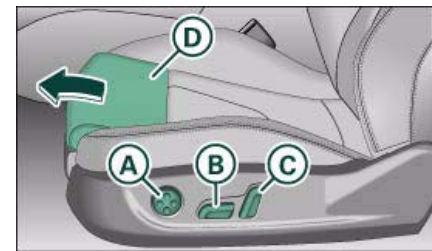

**Fig. 76 Front seat:
- Press switch (B) ⇒ page 74, fig. 76 forwards or backwards.